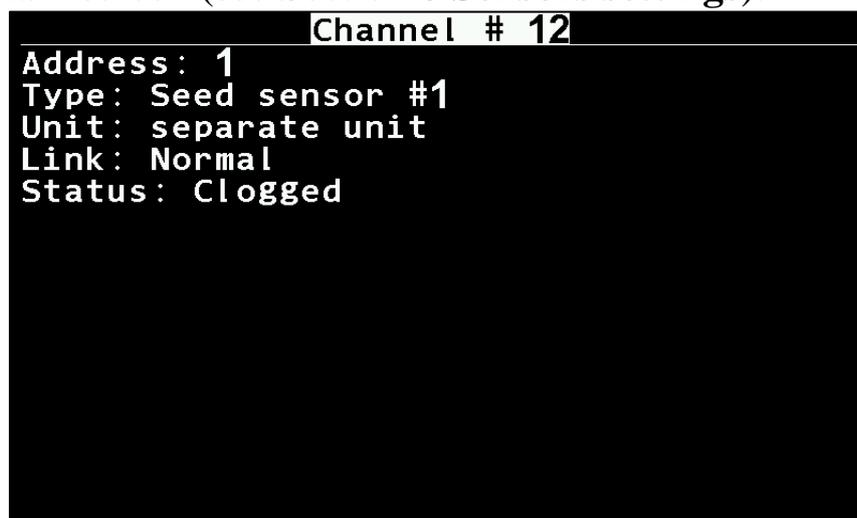

Figure 5 Sensor status
- Sensors status screen, see Figure 5.
Figure 5 shows the sensor status screen consisting of five parameter rows: